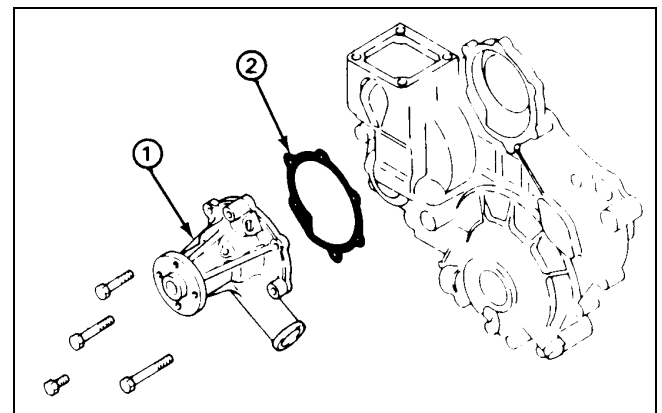

Figure 39
4. Remove the water pump (Fig. 39).